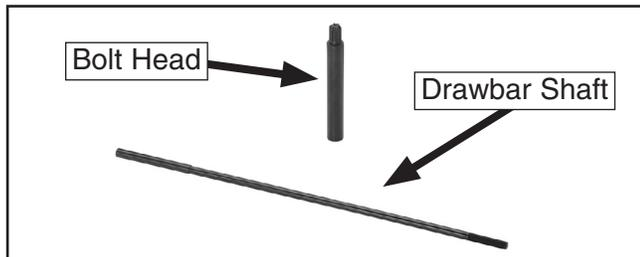

Figure 2. Bolt head and drawbar shaft.
1. Use a caliper to measure the diameter of your mill's drawbar bolt head (see **Figure 2**).